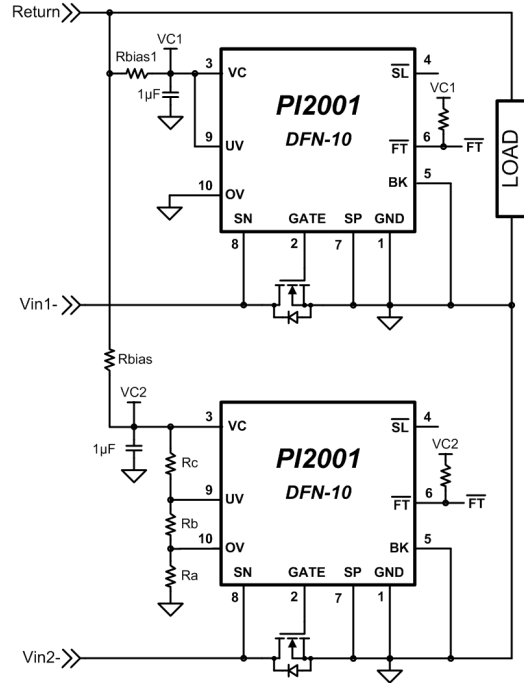

Figure 17: PI2001 in low side -48V application
1. A single PI2001 with a suitable MOSFET for each redundant -48V power source should be used and configured as shown in figure 17. The VC is biased from the return line through a bias resistor.